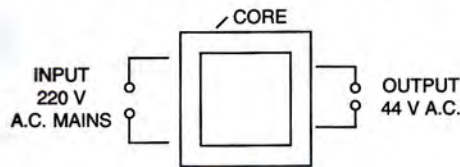

Fig. 10.47
35. The diagram in Fig. 10.47 shows the core of a transformer and its input and output connections.